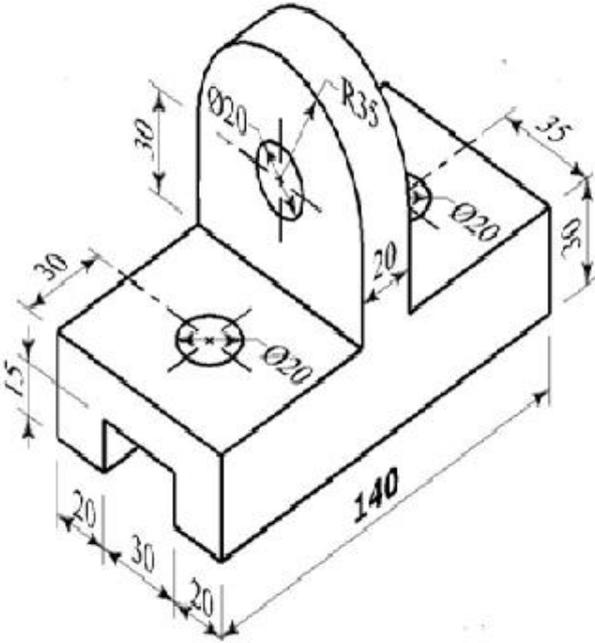

Figure.1 (Q.5A)
Q.5 (a) Write step by step procedure to Draw 3D model for a given component as shown in figure 1 using AUTOCAD. 07